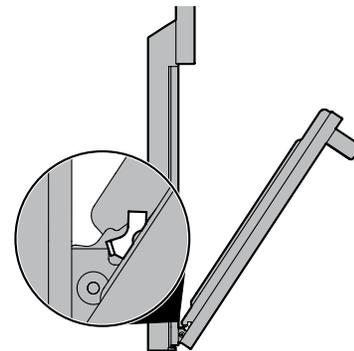

Figure 16: Removal Position
3. Grasp the door by the sides, and close the door until the door frame makes contact with the unlocked hinges (Figure 16)
2. Hold the oven door at the same angle as the removal position(Figure 16). Carefully insert the hinge levers into the oven frame until you feel the hinge levers are seated into the hinge notches. The hinge arms must be fully seated into the hinge notches before the oven door can be fully opened. (Figure 16).